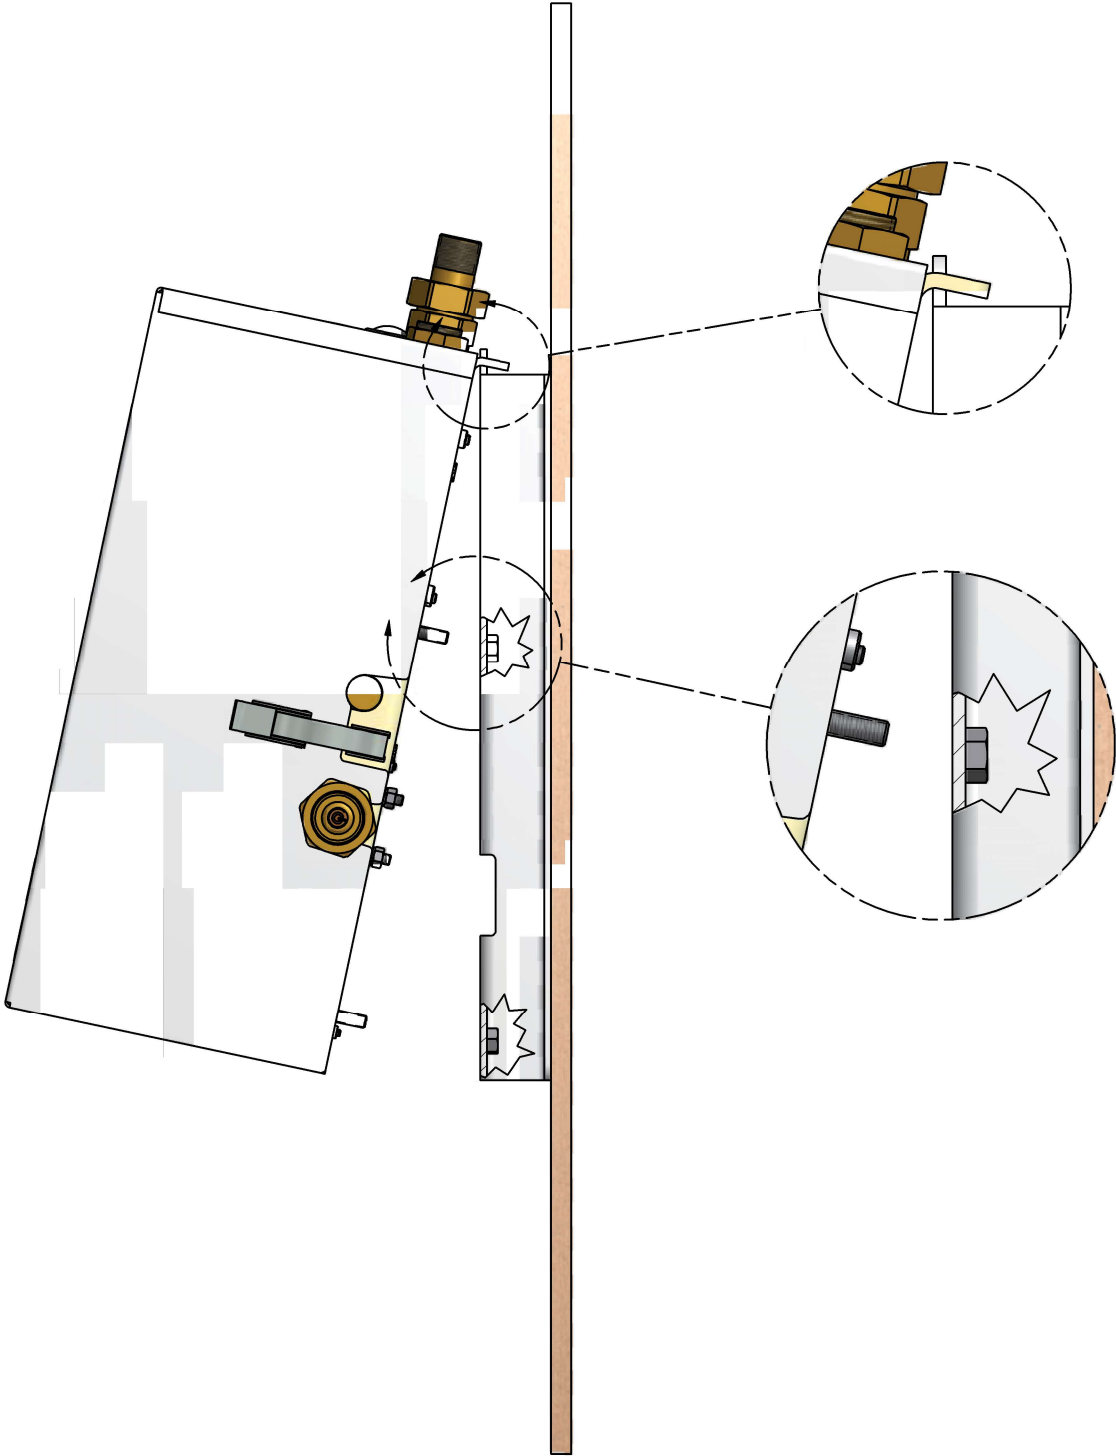

Figure 3
7. Hang manifold control module on tab of mounting bracket as shown in Figure 3. Using M8 hex bolt, attach manifold to wall bracket through slots in black plate (4 places).
9. Hang manifold control module on tab of mounting bracket (Figure 3). Using M8 hex bolt, attach manifold to wall bracket through slots in black plate (4 places).